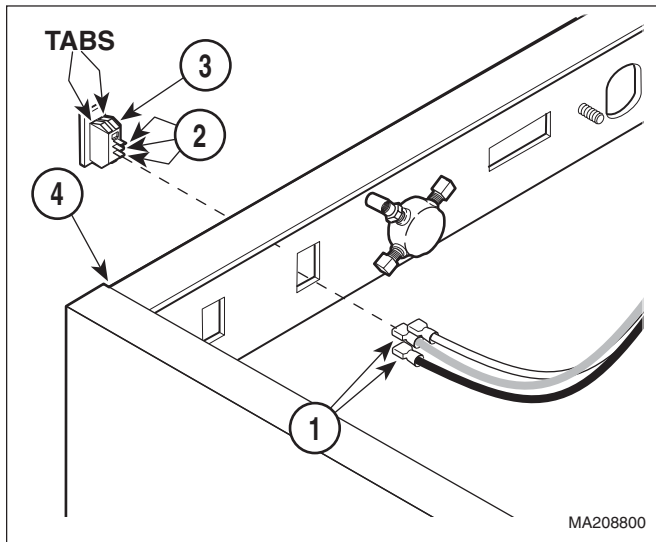

Figure 4-4. PRESSURE ON / OFF Switch Removal / Installation
- (2) Tag and disconnect three wires (1, Figure 4-4) from terminals (2).
- (3) Press four tabs of PRESSURE ON/OFF switch (3) inward simultaneously, and push PRESSURE ON/OFF switch out of cabinet weldment (4).